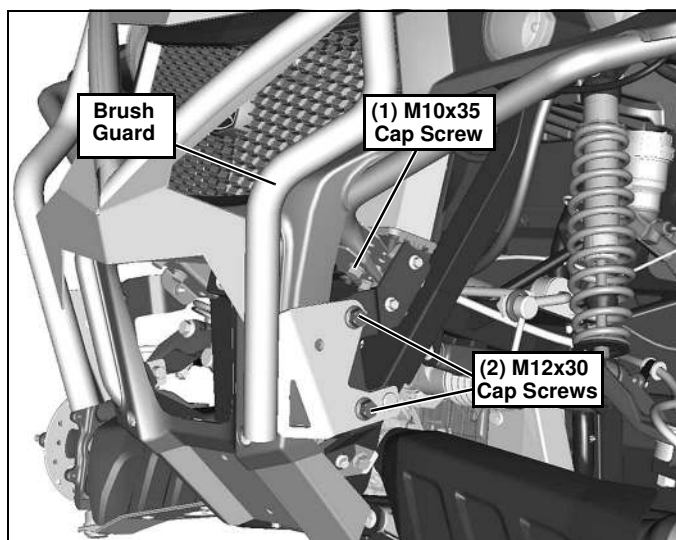

Figure 1
2. For the Standard Brush Guard (on the driver's side), remove the (2) M12x30 Cap Screws securing the Brush Guard Bracket to the frame. Also remove the front M10x35 Cap Screw holding the Brush Guard Bracket to the frame. (See Figure 1.)